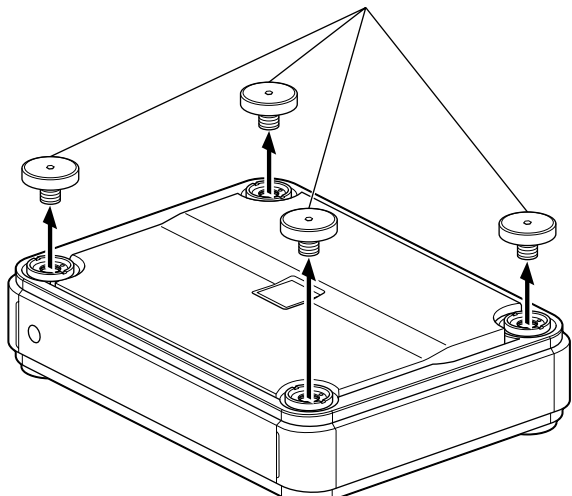
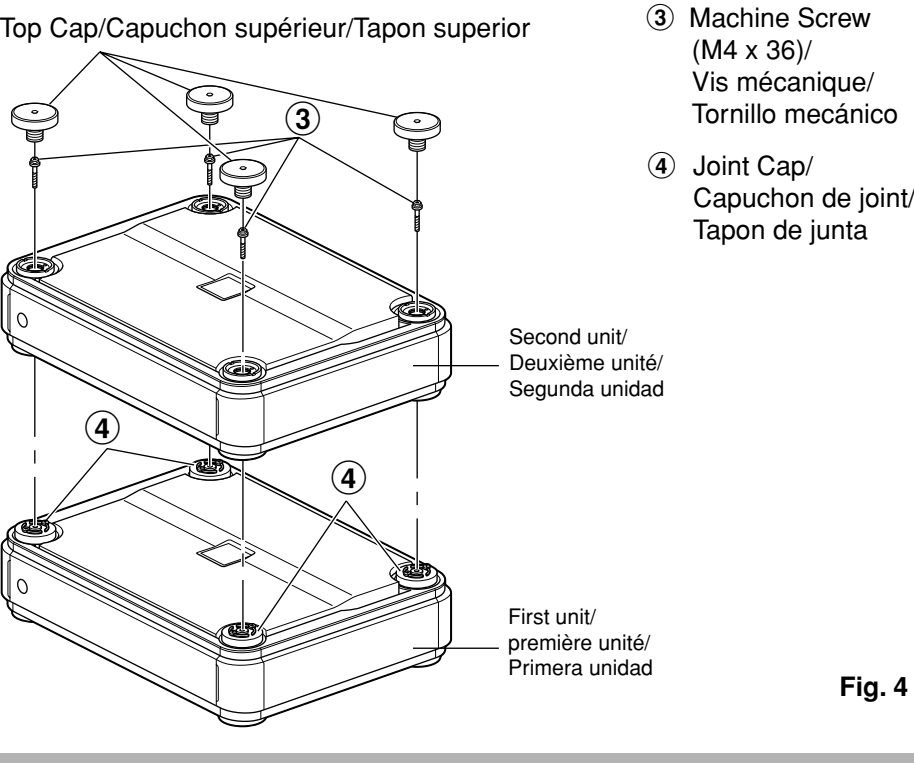

Fig. 1
Fig. 4
## INSTALLATION (Fig. 1 - Fig. 4)
- Remove the four corner top caps on top using the hexagon wrench (large, supplied). Refer to fig. 1.
- Insert the four machine screws (M4 x 36, supplied with connected amplifier) through the top of the second unit into the four joint caps of the lower unit to connect them together. Refer to fig. 4.